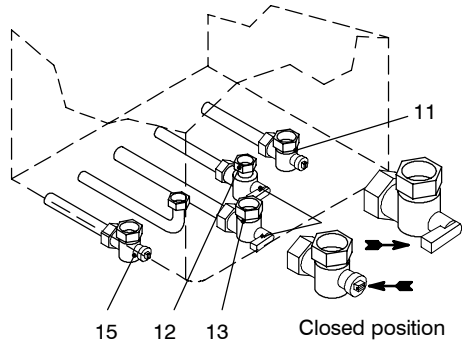

Fig. 9.3
- 1 Turn off the d.c.w. inlet isolating valve (12 in Fig. 9.3) and turn on the hot water taps and any drain cocks.
- 1 Close the c.h. isolating valves (11 and 15 in Fig. 9.3).